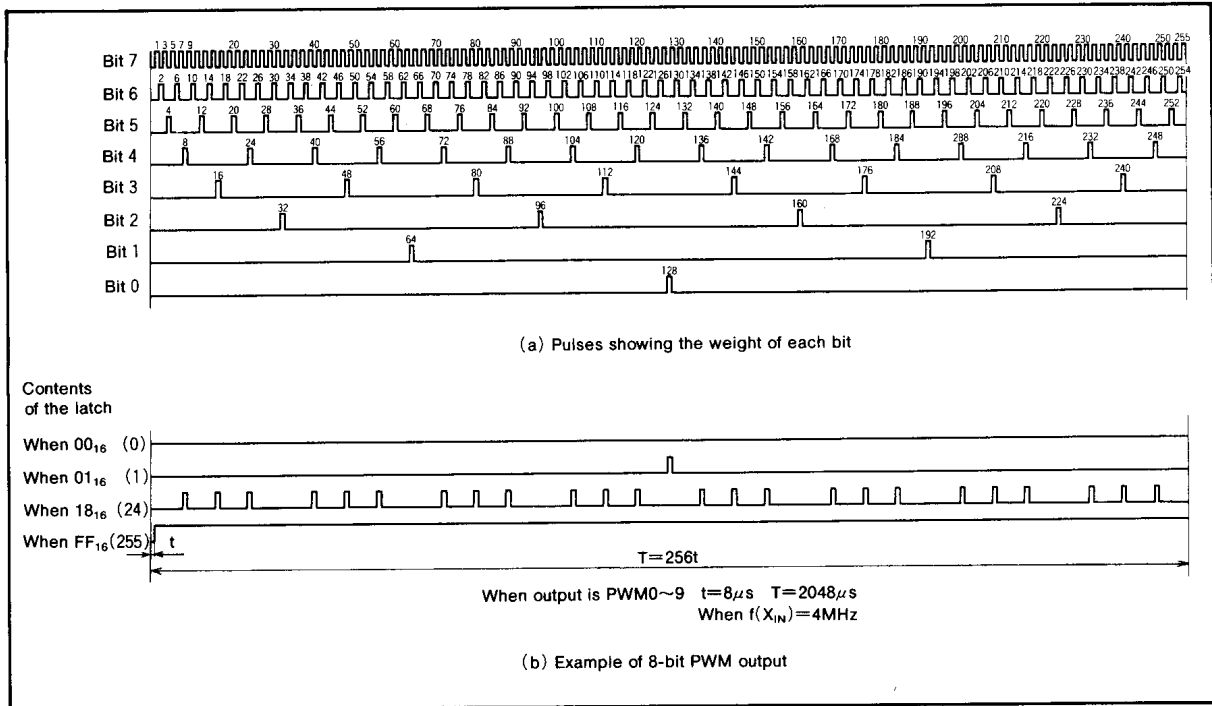

Fig. 16 8-bit PWM timing diagram
(4) Operation of the 8-bit PWMs
The timing diagram of the ten 8-bit PWMs (PWM0~9) is shown in Figure 16. One period (T) is composed of 256 (2⁸) segments.
There are eight different pulse types configured from bits 0~7 representing the significance of each bit. These are output within one period in the circuit internal section. Refer to Figure 16 (a).
Eight different pulses can be output from the PWM. These can be selected by bits 0 through 7. Depending on the content of the 8-bit PWM latch, pulses from 7~0 is selected. The PWM output is the difference of the sum of each of these pulses. Several examples are shown in Figure 16 (b). Changes in the contents of the PWM latch allows the selection of 256 lengths of high-level area outputs varying from 0/128 to 255/256. An length of entirely high-level output cannot be output, i.e. 256/256.